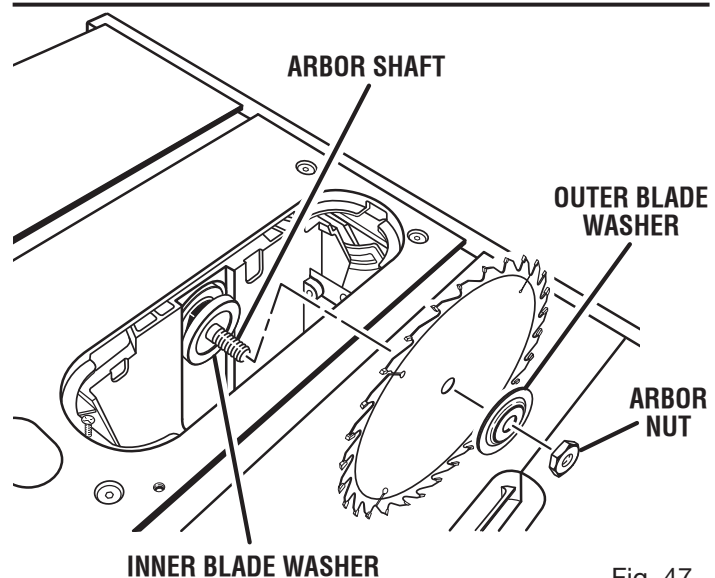

Fig. 47
- Remove the inner blade washer and the spacer. See Figure 47.